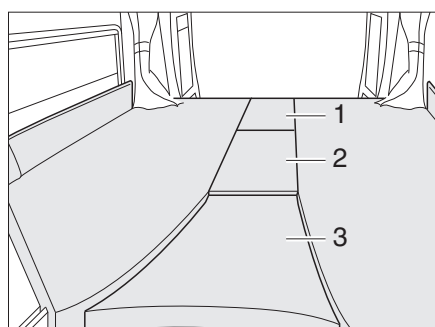
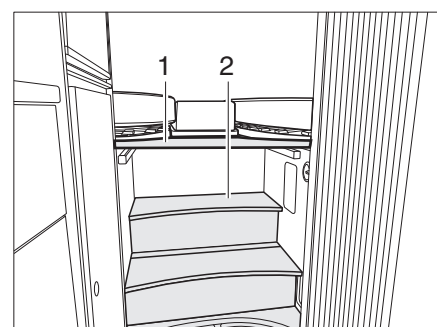

Fig. 50 Double bed rear
Fig. 51 Double bed stairs
▷ In order to use the stairs do not use the board (Fig. 51,1) above the stairs as well as the additional cushion (Fig. 50,3).
- Lay the board (Fig. 51,1) onto the braces above the stairs (Fig. 51,2).
- Insert the additional cushions (Fig. 50,1, 2 and 3).